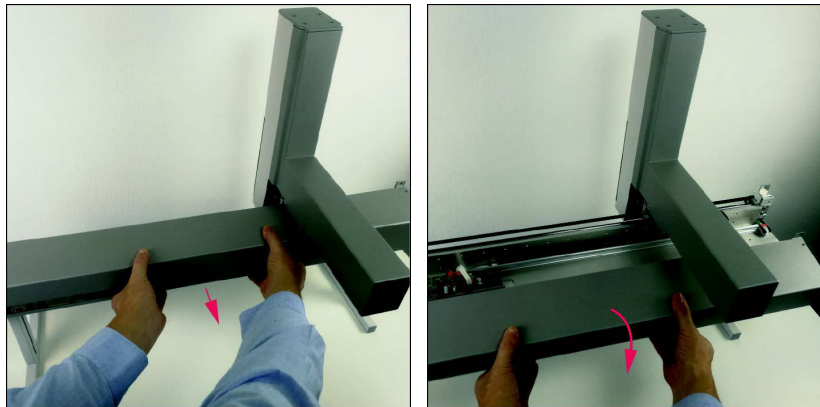

Figure 106: X-beam Rear Cover Removal 4
4. Using two hands, pull away the X-beam rear a few millimeters from the assembly and gently angle the cover backward and downwards to dislodge, as demonstrated in Figure 106.